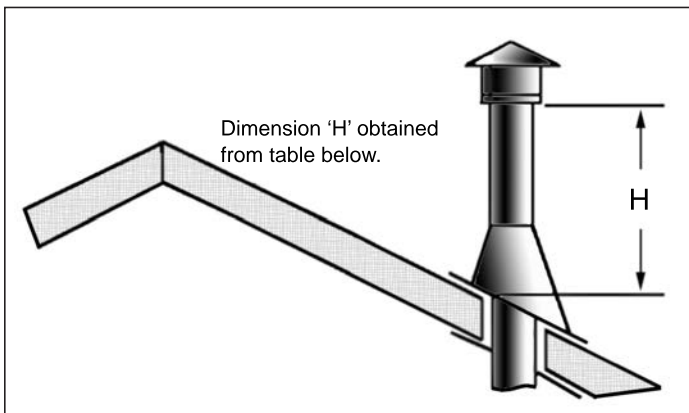

Figure 32: Height of Vertical Termination; Reference Table 6.
8. Continue to add pipe sections until the height of the vent cap meets the minimum code requirements. Refer to Figure 32 and Table 6. Note that for steep roof pitches, the vent height must be increased. In high wind conditions, nearby trees, adjoining roof lines, steep pitched roofs, and other similar factors can result in poor draft, or down drafting. In these cases, increasing the vent height may solve the problem.
Table 6: Minimum 'H' for Figure 32.